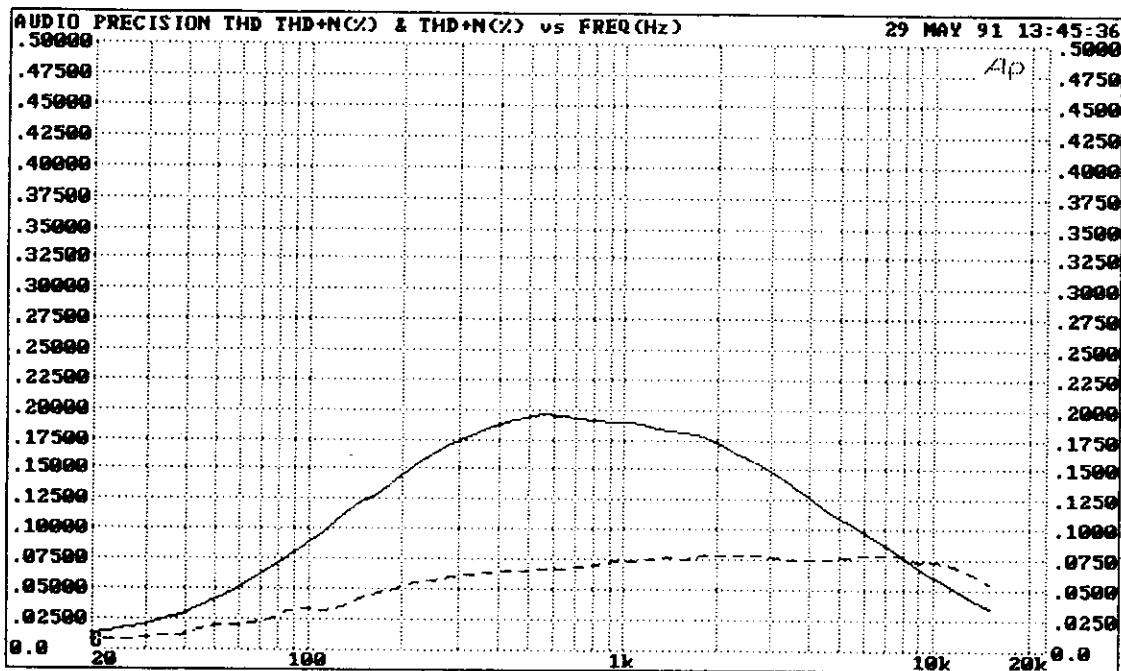

Figure 5: THD (A-weighted) vs. Frequency at full power (375W/8Ω)
- F) Check full power with both channels driven into 8 ohms at 2kHz (see Figure 5).